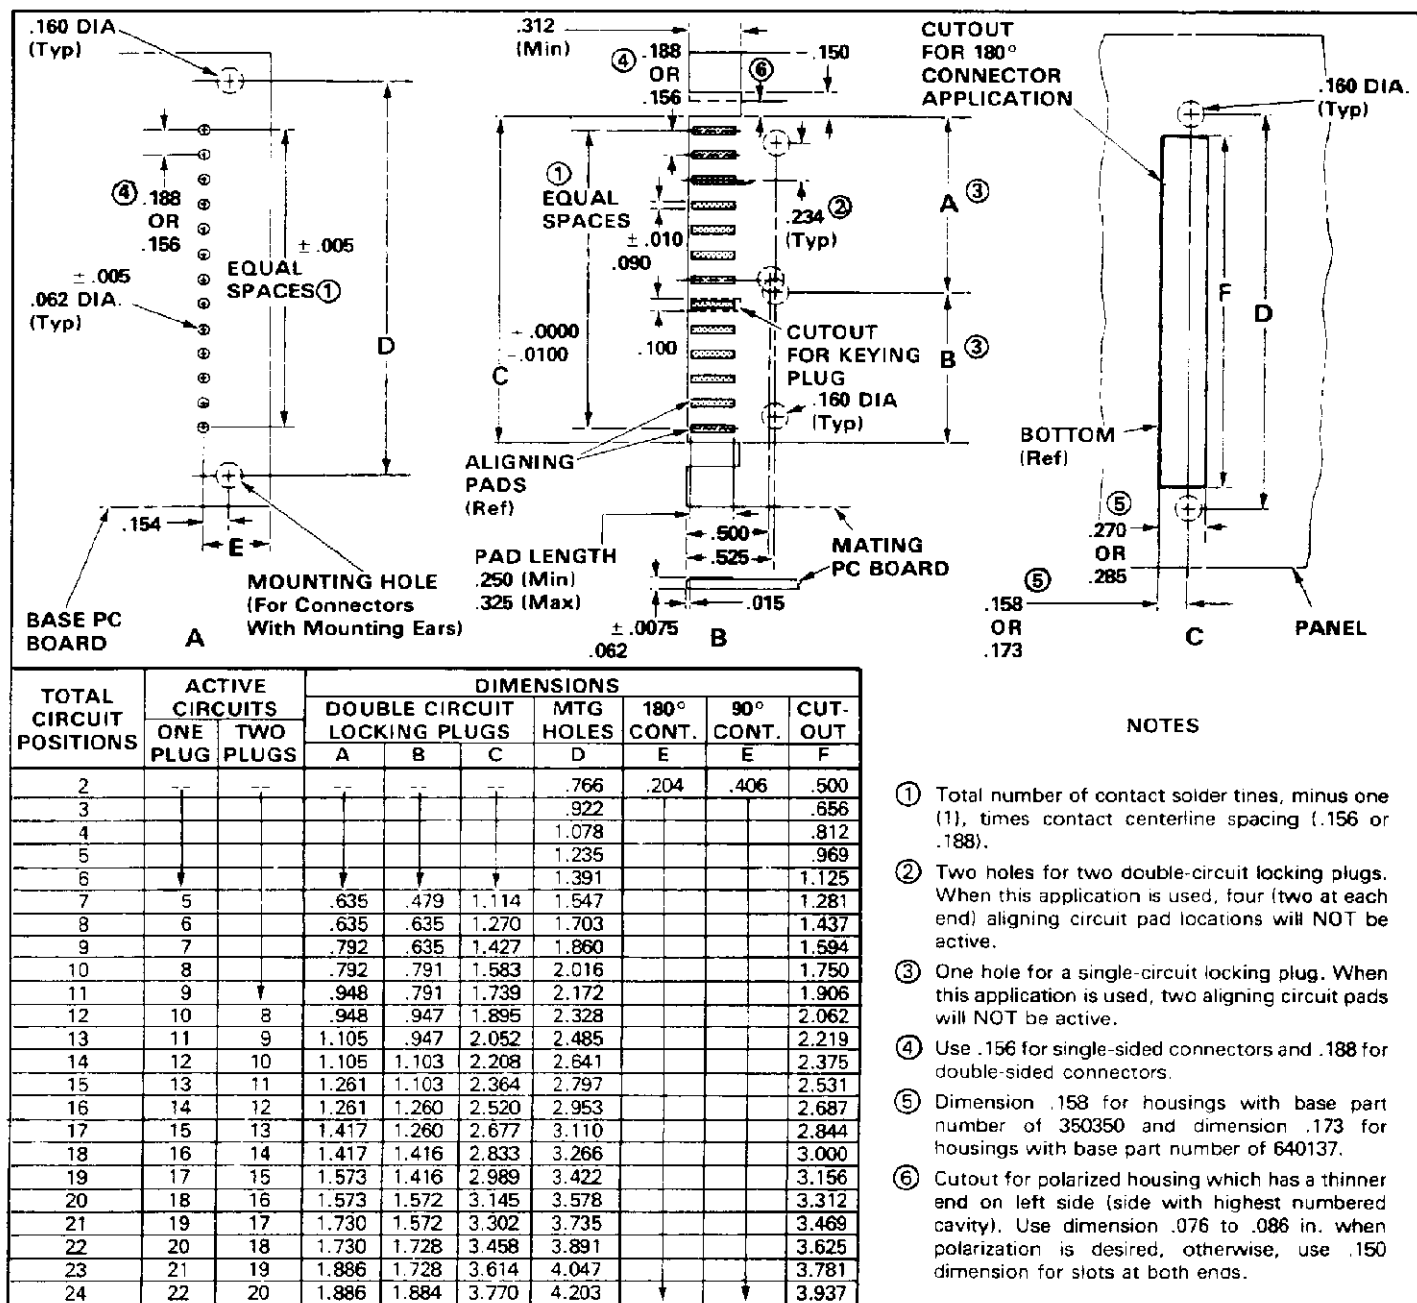

Fig. 2
2. Make a hole layout on the base pc board using the dimensions shown in Figure 2,A.
3. Make a pad layout on the mating pc board using the dimensions shown in Figure 2,B.
1. Refer to the chart in Figure 1 and select the proper housing and contacts. If the connector is to be panel mounted, make a layout on the panel using the dimensions in Figure 2,C.
4. Make a hole in the mating pc board to correspond with the locking plug hole dimensions in Figure 2,B.